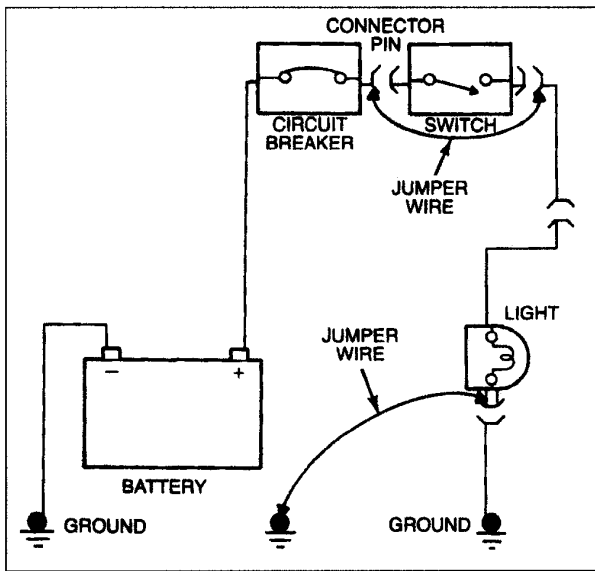

Figure 9 Circuit
1. If the circuit (Figure 9) works properly with the jumper wire in place, but does not work when the jumper wire is removed, the circuit has an open spot.